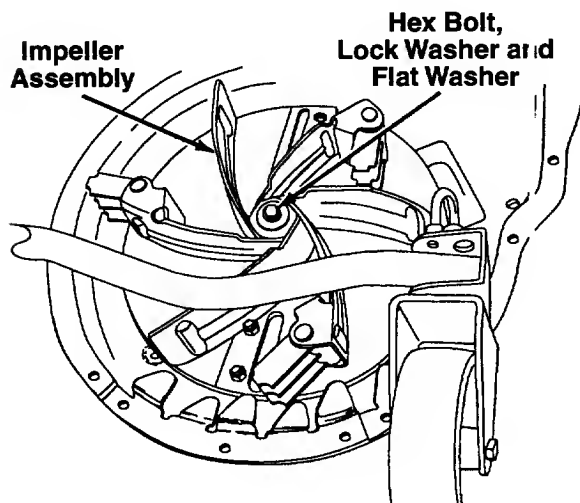

FIGURE 16.
13. Remove the hex bolt, lock washer and flat washer that secures the impeller assembly to the crankshaft. See figure 16.